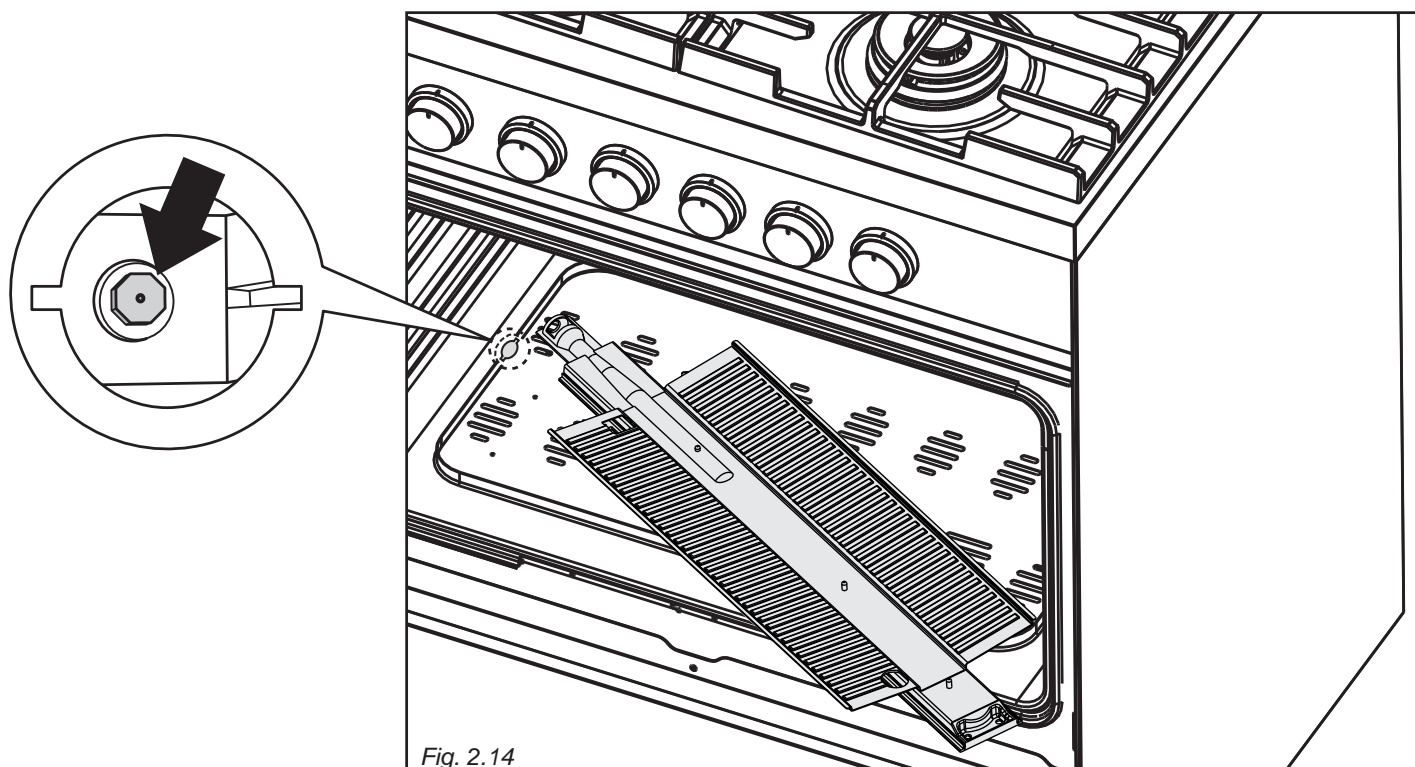

Fig. 2.14
- Withdraw the burner as shown in figure 2.14.